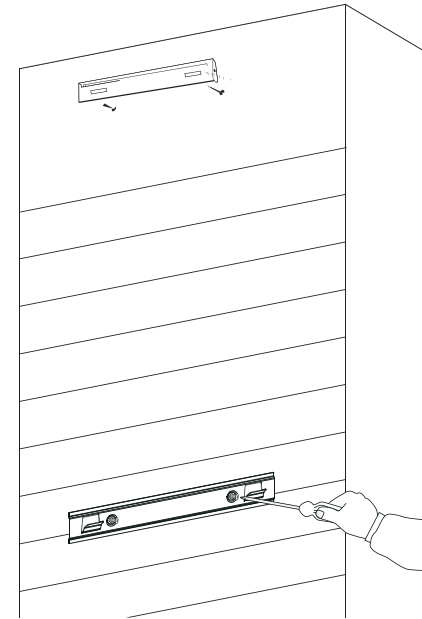

Fig7
- Install the flue cover mounting and wall brackets with screws to the wall as marked (Fig.7). Please mounted recirculating T pieces together with flue cover bracket if recirculating mode is used. (Fig.9)